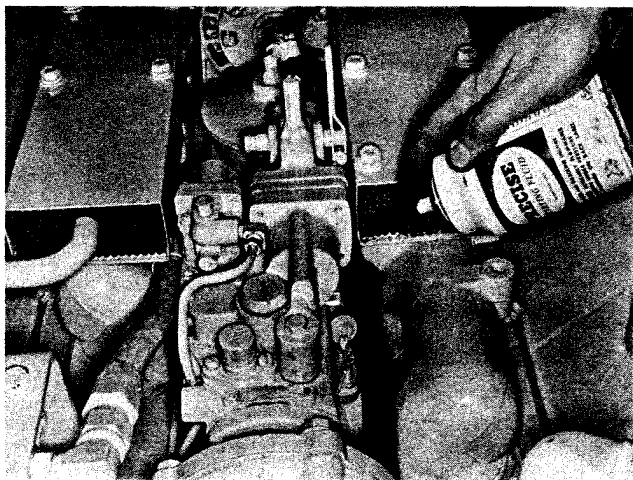

Fig. 1-16, (V11936). Ether spray application
1. Spray ether into air intake, Fig. 1-16, while second man cranks the engine.